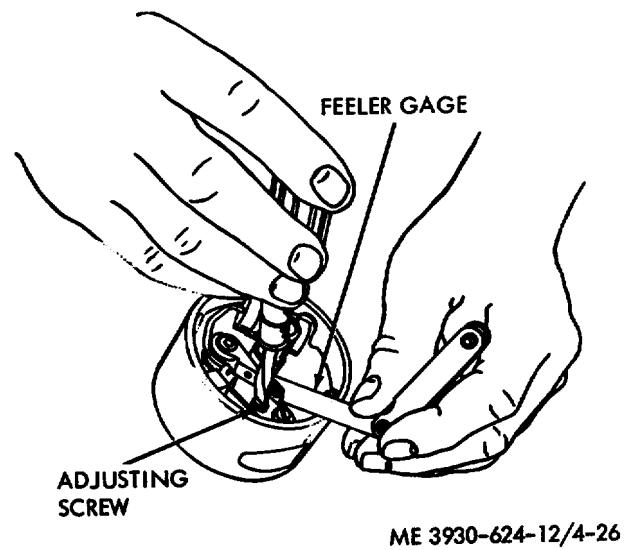

Figure 4-26. Adjusting contact gap.
(3) Remove the slotted head locking screw attaching the contact support to the distributor breaker plate, and remove the contact points. If the capacitor is to be replaced, remove the screw attaching the capacitor to the breaker plate and remove the capacitor.
(4) Apply a light coat of grease to the distributor cam. Install a new capacitor. Install a new contact support over the pivot post and start the slotted head locking screw attaching contact support to breaker plate, but do not tighten the screw at this time. Install the breaker lever over the pivot post and over the inner end of the primary terminal. Install and tighten the nut on the primary terminal.
(5) Rotate the crankshaft until the breaker lever rubbing block is on a high spot on the cam, thus opening the contact points to their maximum open position. Turn the eccentric adjusting screw to obtain the specified contact point gap of 0.016 in. Lock the points in position by tightening the contact plate locking screw. After tightening contact plate locking screw, recheck point gap. Refer to figures 4-26 and 4-27.